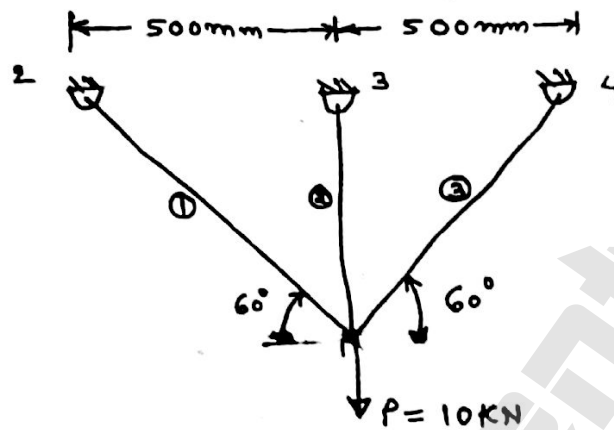

Fig. 7
7. (a) For the plane truss shown in Fig. 7. Determine displacement at the nodes, stress in members.